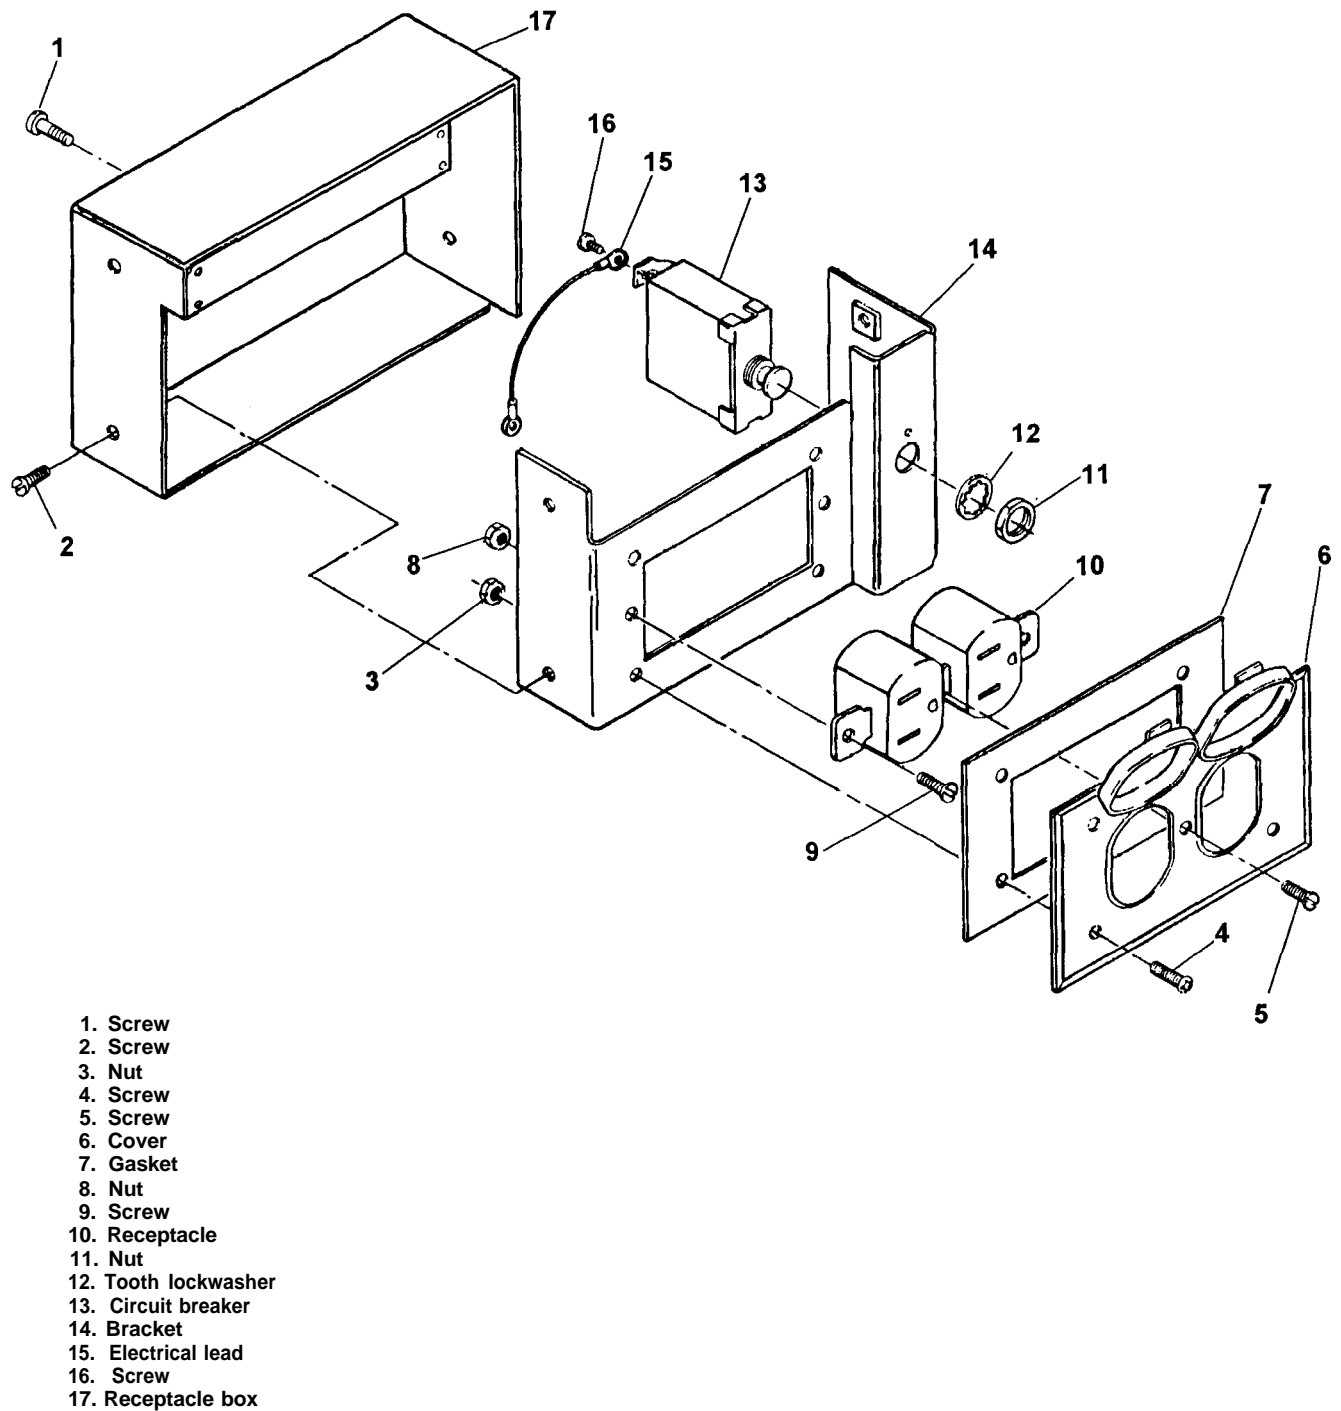

Figure 4-48. Convenience Receptacle and Circuit Breaker, Removal and Installation
- (1) Remove screws (1, Figure 4-48) and carefully pull convenience receptacle box out from generator set.
- (2) Remove screws (2) and carefully pull convenience receptacle and circuit breaker away from box (17).
- (3) Tag and disconnect electrical leads from convenience receptacle and circuit breaker.
- (4) Remove nuts (3) and screws (4 and 5) to remove cover (6) and gasket (7).
- (5) Remove nuts (8) and screws (9) to remove receptacle (10).
- (6) Remove nut (11) and tooth lockwasher (12) to remove circuit breaker (13) from bracket (14).
- (7) Remove screw (16) to disconnect wire (15) from circuit breaker (13).
- (1) Connect electrical lead (15, Figure 4-48) to circuit breaker (13) and install screw (16).
- (2) Mount circuit breaker (13) in bracket (14) and secure with tooth lockwasher (12) and nut (11).
- (3) Install receptacle (10), screws (9) and nuts (8).
- (4) Install gasket (7), cover (6), screws (5 and 4) and nuts (3).
- (5) Connect electrical leads to convenience receptacle and circuit breaker.
- (6) Position bracket (14) in box (17) and secure with screw (2).
- (7) Attach convenience receptacle box to generator set and secure with screws (1).